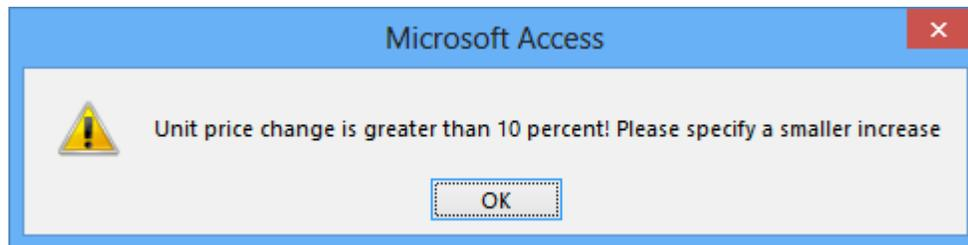

Figure 52: Error Message *Before Change* Macro Violation
7. Test the *Before Change* Macro: Switch to datasheet view and increase the *UnitPrice* column value in a row by more than 10 percent. You should see an error message shown in Figure 52. If you want to modify the macro, you should switch to design view and select **Design** → **Create Data Macros** → **Before Change**.